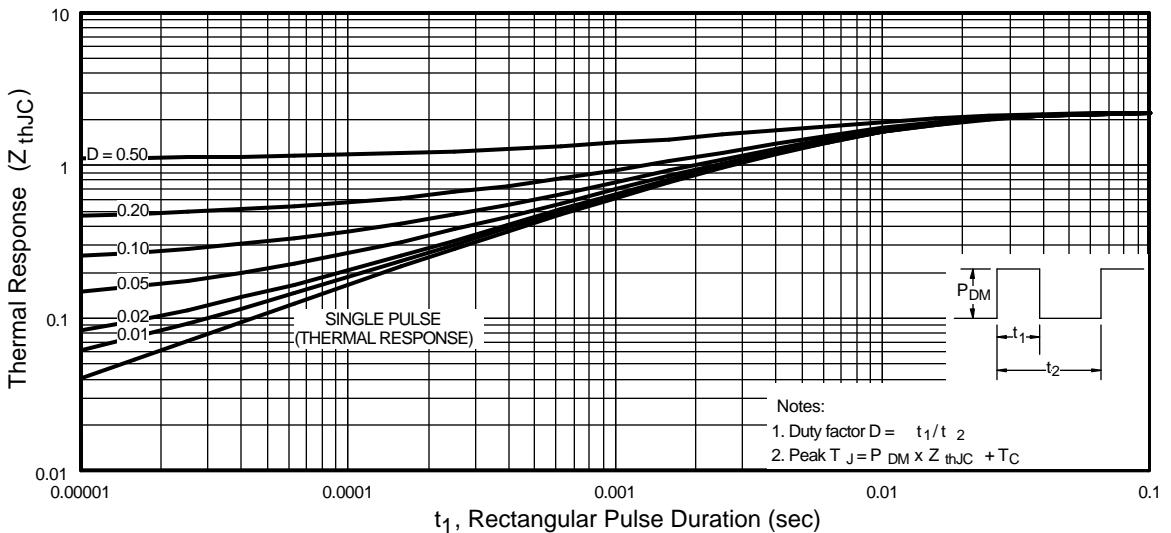

Fig 11. Maximum Effective Transient Thermal Impedance, Junction-to-Case
- ① Repetitive rating; pulse width limited by max. junction temperature. (See fig. 11)
- ② Starting $T_J = 25^\circ\text{C}, L = 3.2\text{mH}$